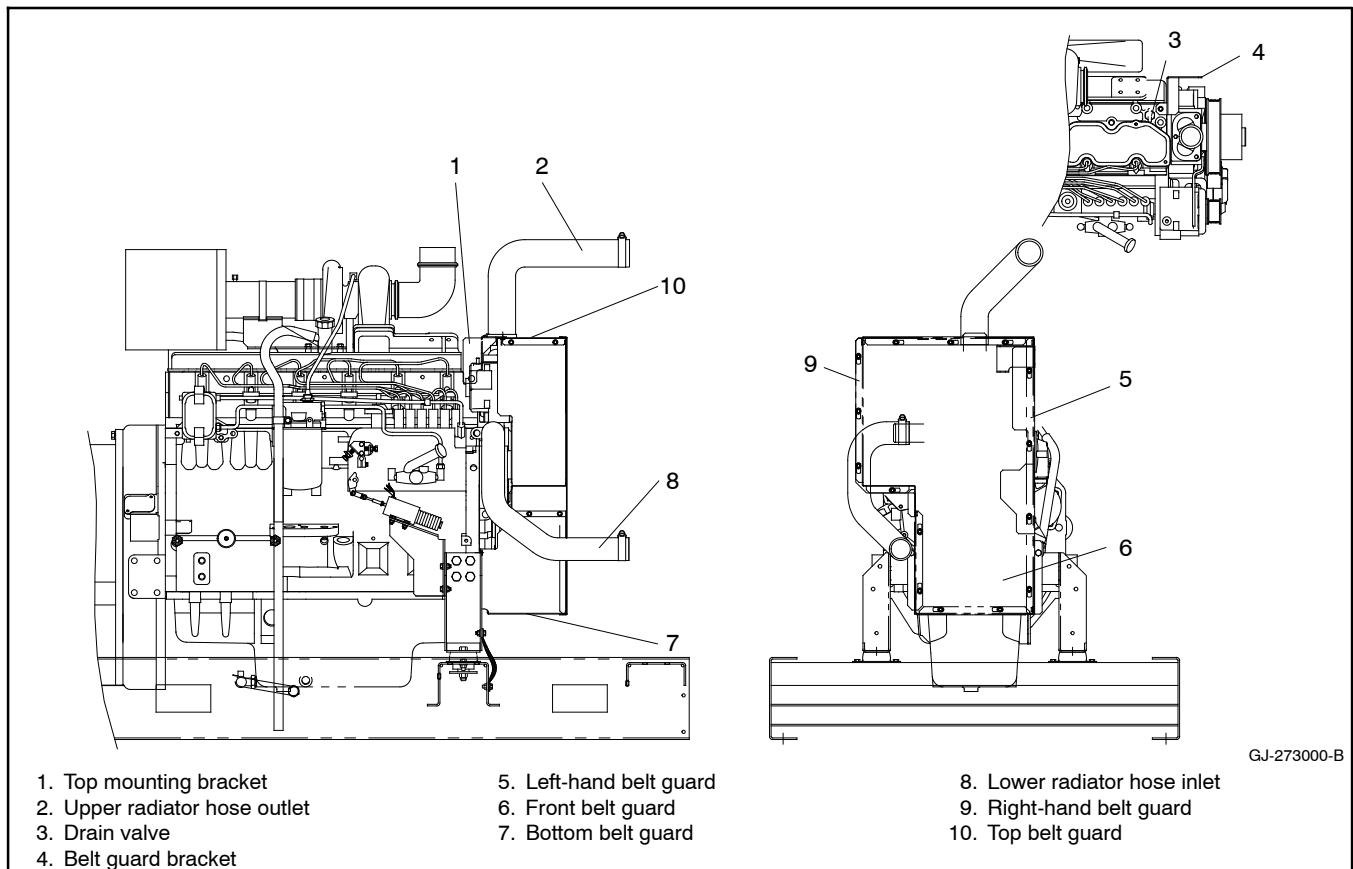

Figure 4-11 Remote Radiator Setup Kit, Typical
- Use a remote radiator setup kit, if available, to aid installation. See Figure 4-11.